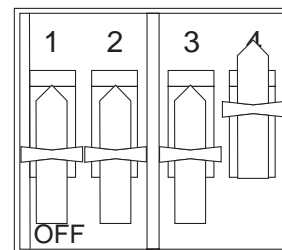

Figure 2-3 DIP switches
- On a standalone module, the 4-pole DIL switch (S1), illustrated in Figure 2-3, is used by the preloaded PLD configuration to select the FPGA configuration.